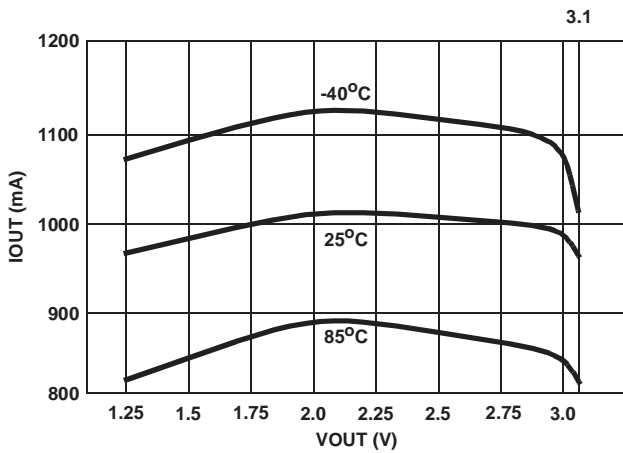
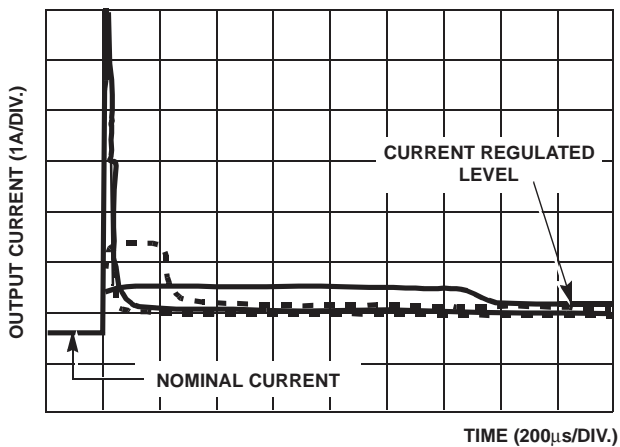
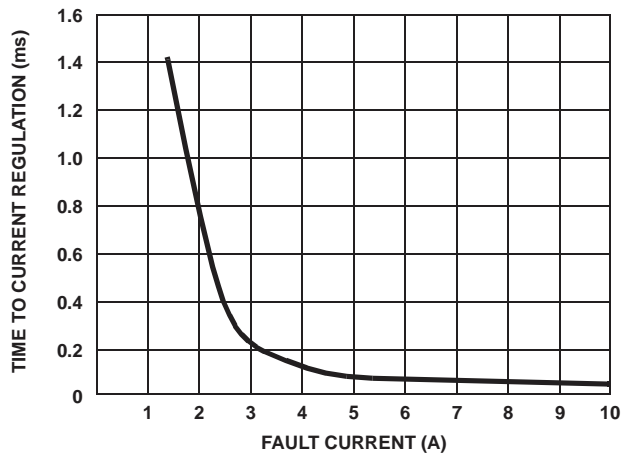

FIGURE 4. CURRENT REGULATION vs VOUT (VIN = 3.3V)
FIGURE 6. OC TO CR SETTLING TIME WAVEFORMS
FIGURE 7. CR SETTLING TIME vs FAULT CURRENT
The ISL6436 has integrated current sensing on the power MOSFET that allows for rapid control of OC events. Once an OC is detected the ISL6436 goes into its current regulation (CR) control mode. The ISL6436 CR level is set to a nominal 1A. This current regulation is  $\pm 25\%$  over the full operating temperature and voltage bias range. See Figures 4 and 5 for illustrative curves. The speed of this control is inversely related to the magnitude of the OC fault. Thus a hard over current is more quickly controlled than a marginal OC condition. See Figure 6 for waveforms illustrating this and Figure 7 for an accompanying graph.